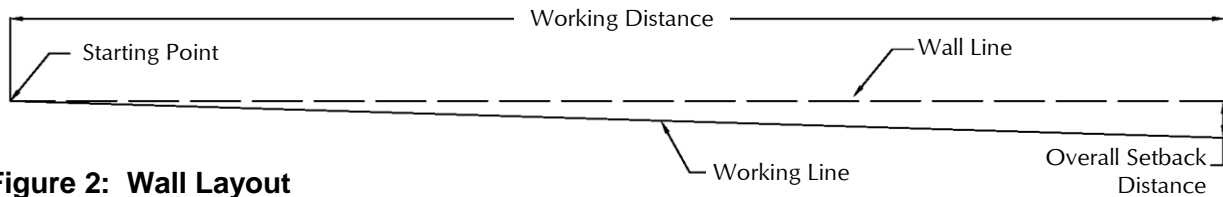

Figure 2: Wall Layout
5. At the end of your working distance measure from the *Wall Line* and mark the overall setback distance you determined in Step 3. Stretch a string line from the beginning of the working distance to the overall setback mark you just made. Figure 2 shows this line as your *Working Line*.